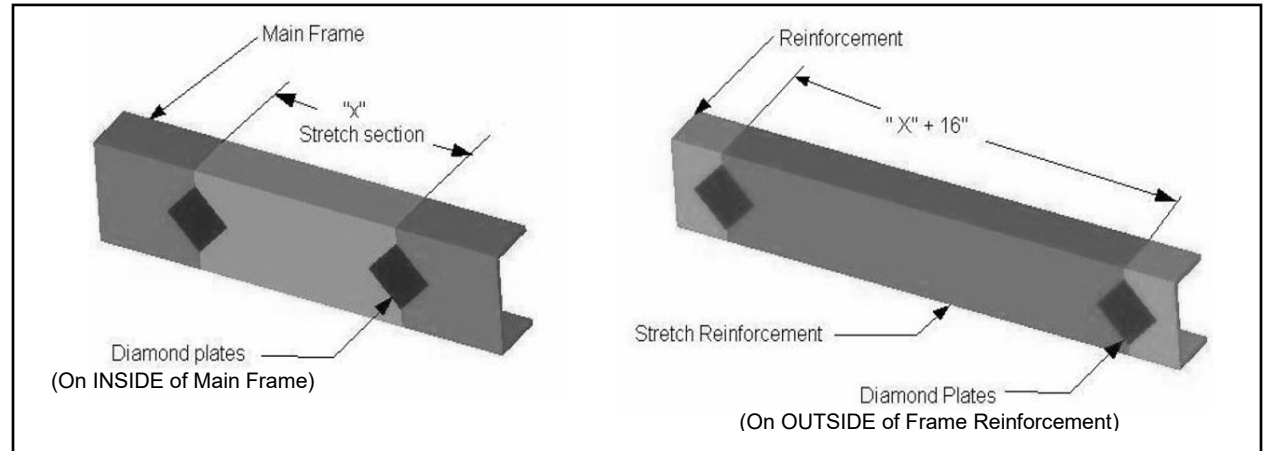

Figure 35 – Added "Fishplates" to Frame and Frame Reinforcement
- Weld a "fishplate" made from the same strength and thickness material as the reinforcement over the exposed vertical welds on the outside of the reinforcement. Weld a "fishplate" made from the same strength and thickness material as the main frame over the exposed vertical welds on the inside of the main frame. An appropriately sized diamond shape is recommended. (see Figure 35)